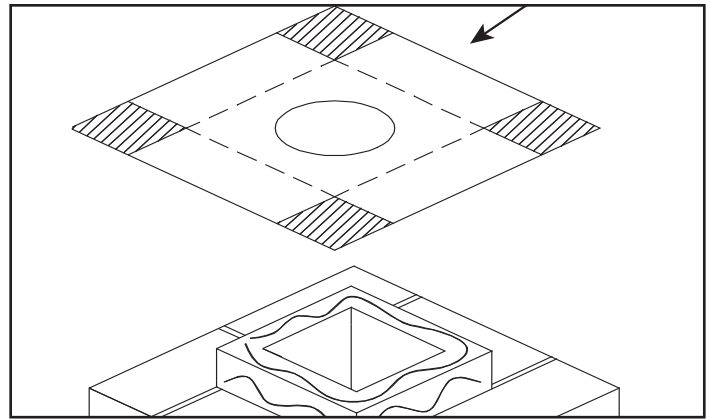

Figure 4.19
3. Secure the flashing to the top of the masonry chimney using a bead of non-hardening sealant-adhesive. If the flashing is larger than the top of the chimney, cut and fold flashing as needed to fit chimney. See Figure 4.19.